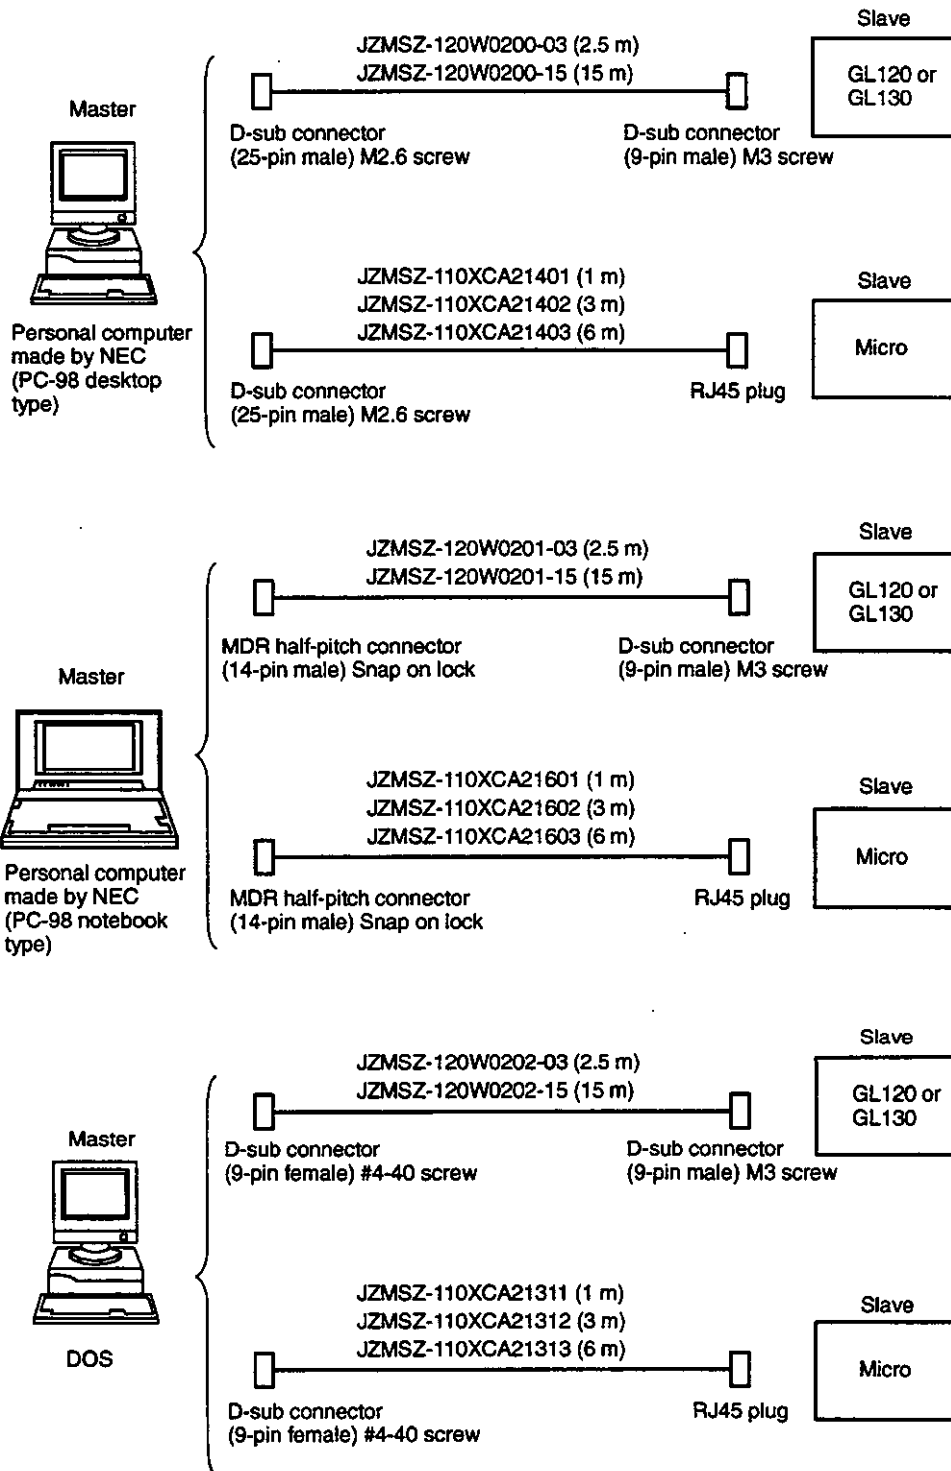
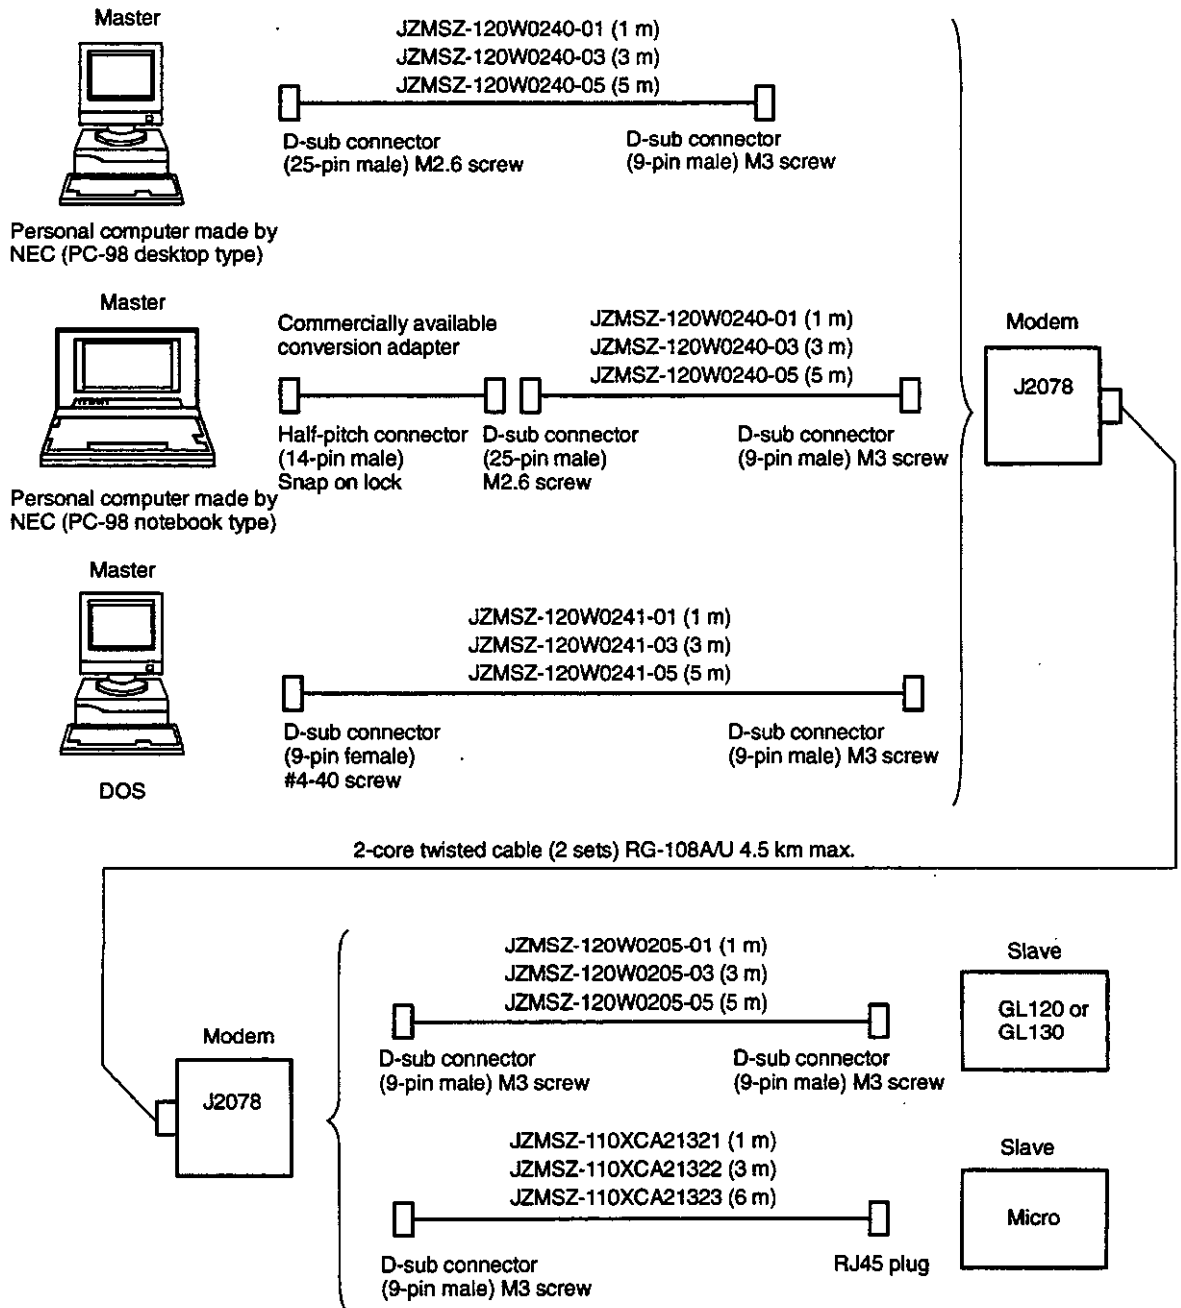
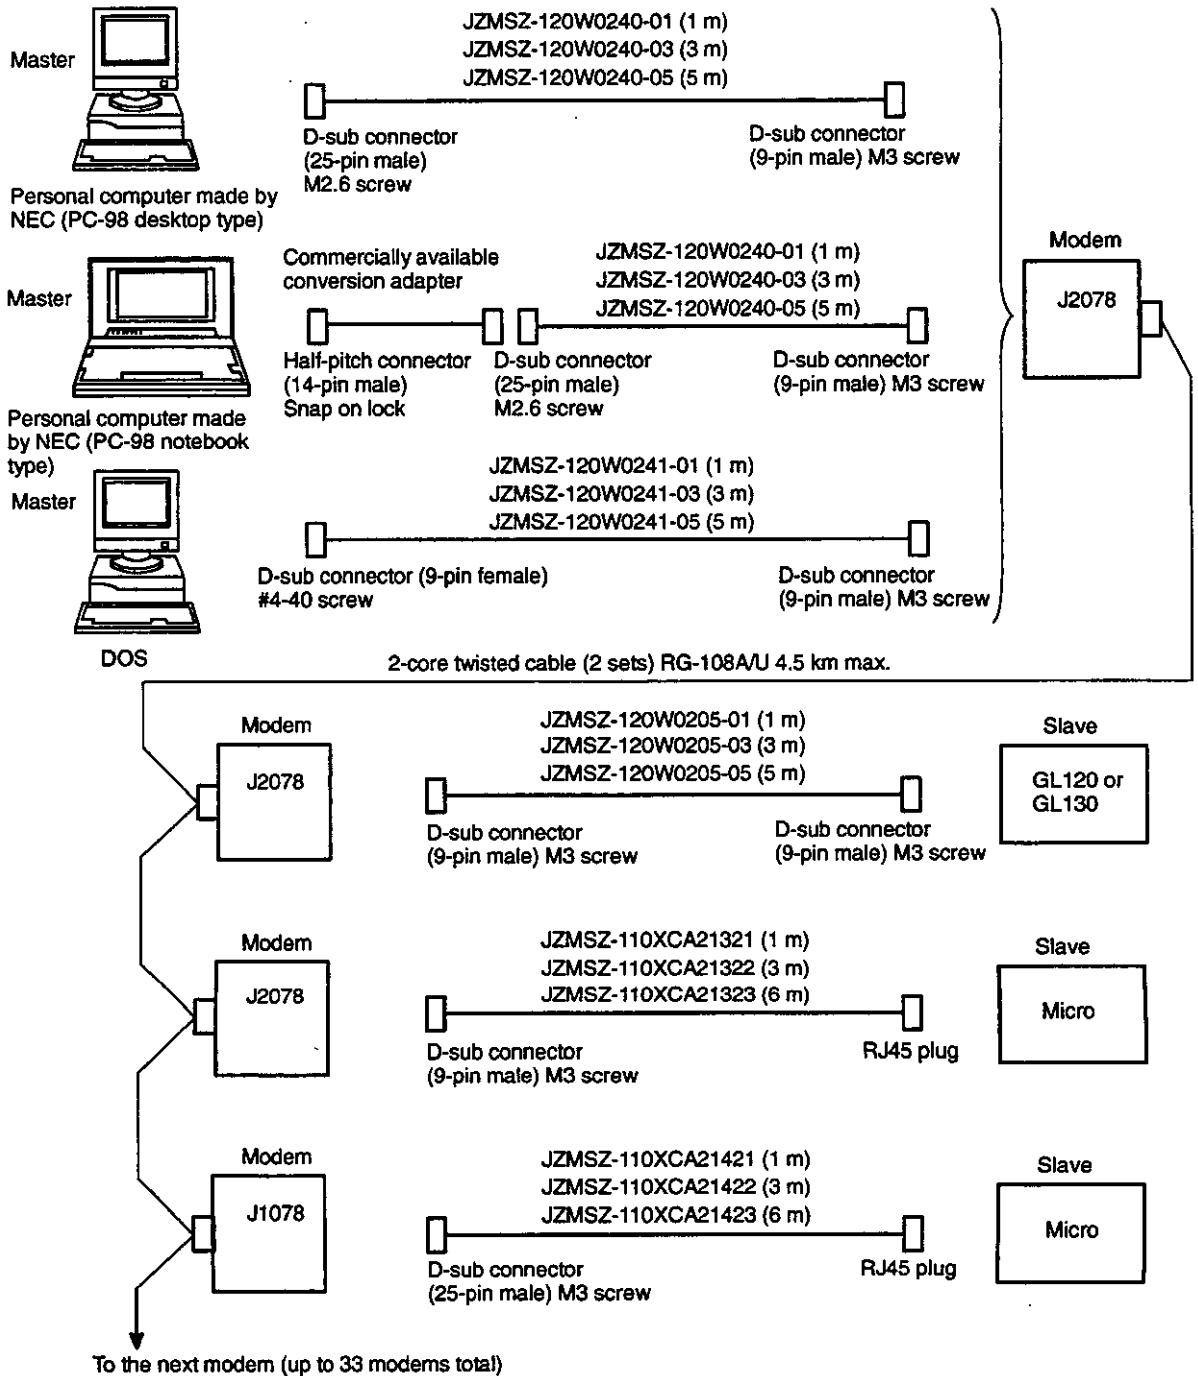

Figure 4.1 Computer Master 1:1 Configurations
Figure 4.2 Computer Master 1:1 Configurations Connected by Modems
Figure 4.3 Computer Master 1:N Configurations Connected by Modems
1) Computer master configurations with a master and slave are shown in *Figure 4.1*. Alternate slaves are shown for each master, but only one slave is actually connected in this type of configuration.
1) Figure 4.2 shows a computer master configuration where a master and slave are connected by modems. Alternate slaves and masters are shown at each end of the modem connection, but only one master and one slave are actually connected in this type of configuration.
1) Figure 4.3 shows computer master configurations with a master and multiple slaves connected by modems. Alternate masters are shown, but only one master is actually connected in this type of configuration.
6) The configurations when a Programming Panel master is a personal computer are the same as those for the computer masters described in section 4.1 Computer as Master (Figure 4.1, Figure 4.2, and Figure 4.3), so the structural diagrams are omitted here.